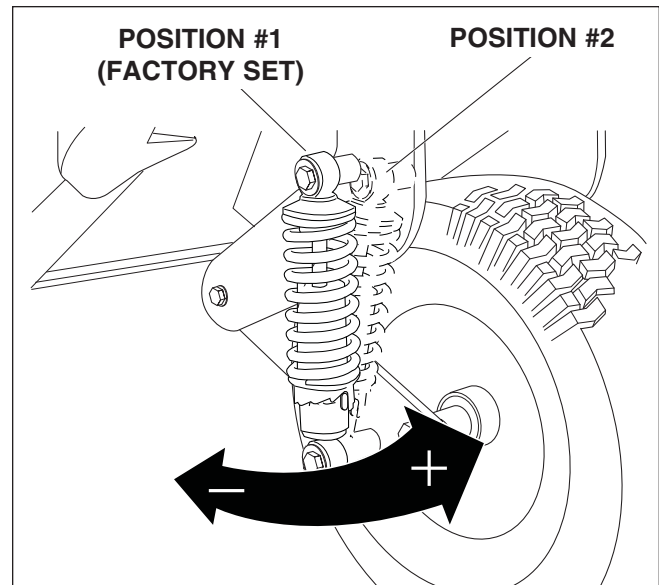

Figure 32. Rear Suspension Adjustments
2. See Figure 32. Using the supplied spanner wrench (p/n 5022853), insert the tip of the wrench into the notch in the pre-load adjuster. While holding the wrench in place with one hand, turn COUNTER-CLOCKWISE to increase the pre-load, turn CLOCKWISE to decrease the pre-load.